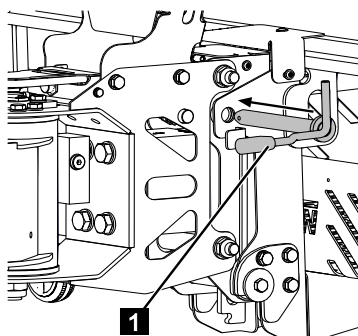

Fig. 158
3. Insert the locking pin (Fig.158/1).